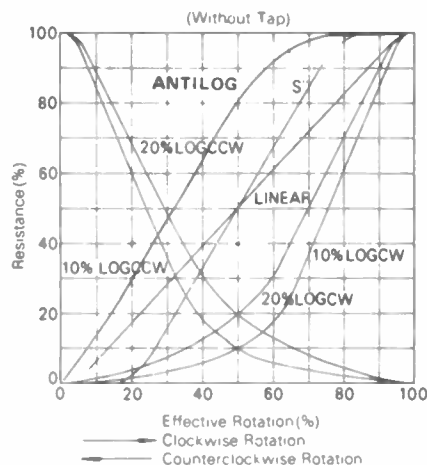

Fig. 3. The common resistance-versus-rotation 'laws' as 'tapers' for potentiometers.
The resistance 'law' of a potentiometer refers to the manner in which the resistance changes (as measured between as end terminal and the wiper terminal) with rotation of the shaft. There are a considerable number of different 'laws' in common use. The main ones however are: linear, logarithmic, and 'S' law. These are illustrated in Figure 3. Note that various log laws are used, the 20% log law is the more common one however. The laws for both clockwise (CW)